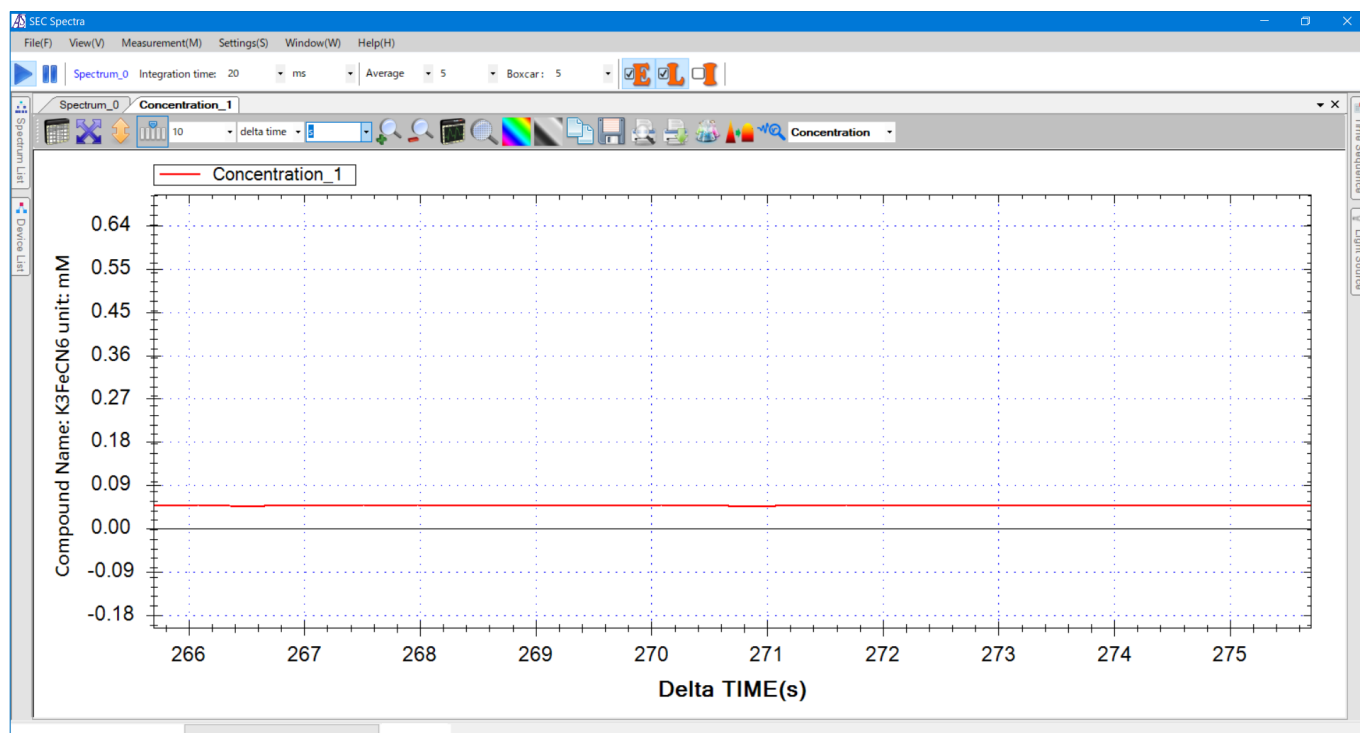

Figure 12-5. Newly created concentration measurement graph
- ① Place the solution of known concentration (No. 1) in the cuvette holder, and enter **Specific wavelength** (420 nm in this case) in the **Wavelength** field of the **Create calibration data from known concentration** screen, and the software will automatically select the closest wavelength.
- ② Next, enter the value corresponding to **Concentration** in the **Calibration data** field and press **Get** icon to measure the absorbance.
- ③ Click **Add to list** icon. Add this absorbance to the table list on the right.
- ④ Then, place a solution of known concentration (No.2) in the cuvette holder. Then enter the **Concentration** value and press **Get** icon to measure the absorbance of this concentration.
- ⑤ Repeat the same operation using solution of known concentration. If you get 2 points, the parameters of the regression curve will be displayed.
- ⑥ If you want to delete the data, select the data row in list and click **Delete** icon to delete the point.
- ⑦ **Compound name** and **Concentration unit** entered here will be displayed in the concentration measurement graph (Figure 12-5).
If you want to measure the concentration from Lambert-Beer's law, click on the **Beer's Law Settings** tab, set the parameters in the following screen and click **Apply** to create the measurement diagram (Figure 12-5).